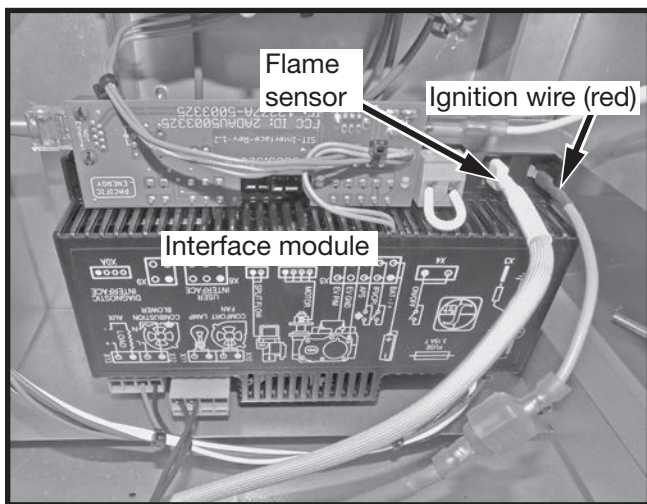

Figure 14: Interface module.
8. Connect the ignition wire and the flame sensor wire to their proper terminals (Figure 14).